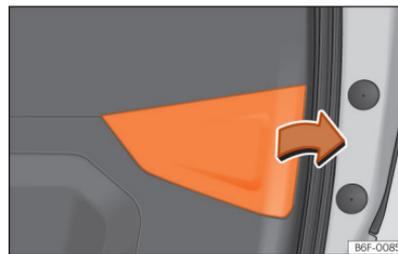

Fig. 173 Rear lid open: remove the lid.
- Remove the rear lid cover in the direction of the arrow >>> Fig. 173.